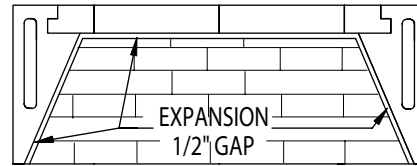

FIGURE 8
3. Start the fire brick at the front edge of the floor of the Isokern firebox, proceeding inward toward the back. Let the floor brick gap approximately 1/2" off the back wall and side walls. This air space allows heat expansion of the fire brick and is to be left empty of mortar. (Figures 8 & 10)